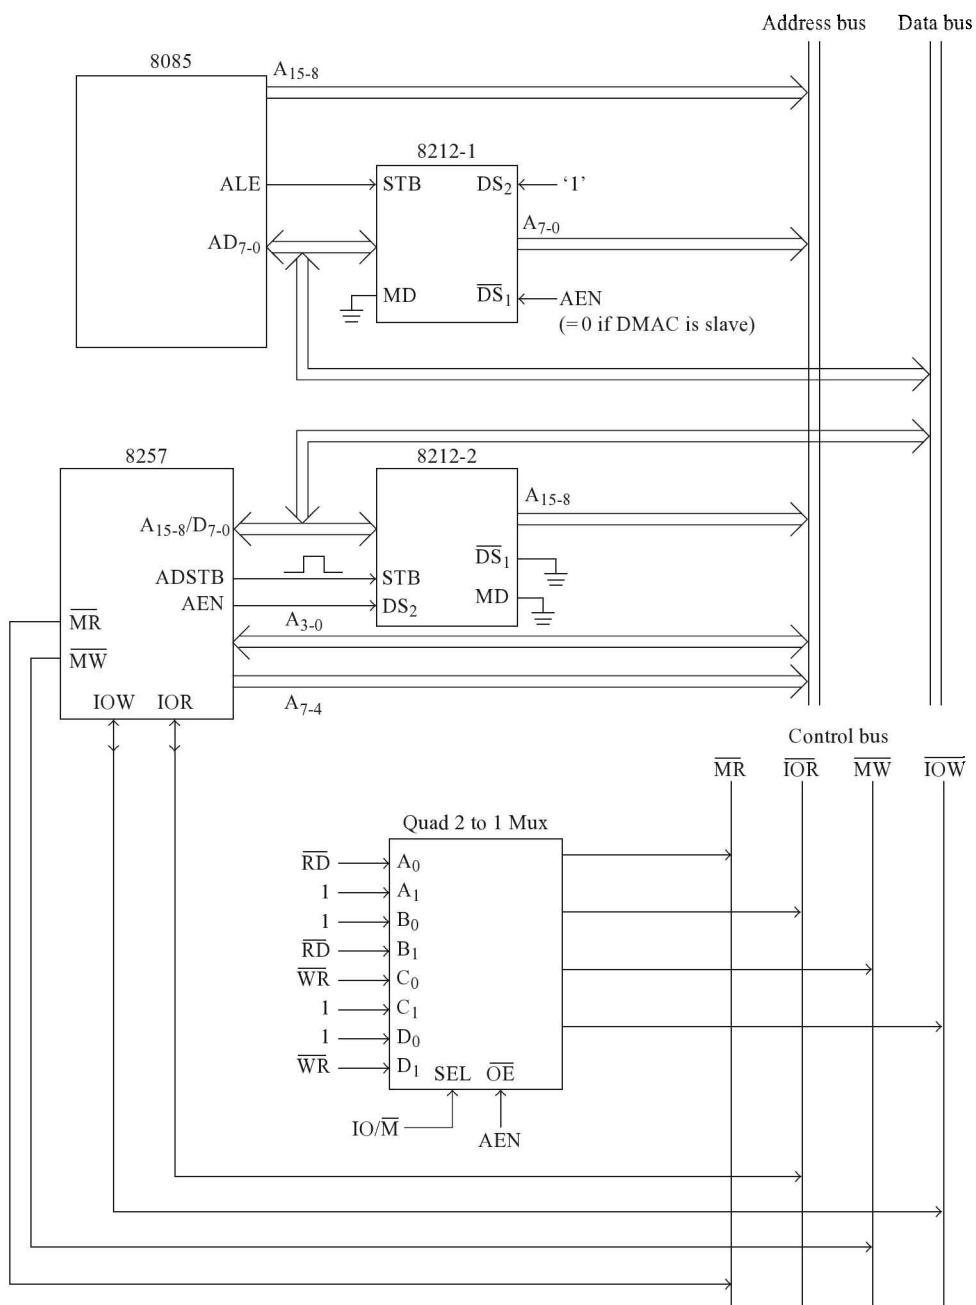

Fig. 24.7 Interfacing of 8257 in an 8085-based system
- Fig. 24.7 illustrates the interfacing of 8257 in an 8085-based system. It uses two Intel 8212 non-programmable I/O port chips and a quad 2-to-1 multiplexer. Both 8212s are used in mode 0. At any instant of time only one of the two 8212s is selected. This is because the AEN output of the 8257 is connected to DS1\* input of 8212-1 and DS2 input of 8212-2.
Thus 8212-1 chip is selected when 8257 outputs a 0 on AEN in the slave mode. The 8212-2 chip is selected when the 8257 outputs a 1 on AEN in the master mode. It is easy to note from Fig. 24.7 that the 8085 generates the address and control signals MR\*, MW\*, IOR\*, and IOW\* when the AEN output of 8257 is 0. These control signals are generated by the 2-to-1 multiplexer using RD\*, WR\*, and IO/M\* outputs of 8085.